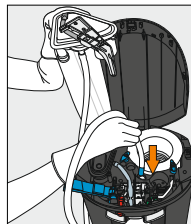

Figure 37
10. Insert water line of replacement SmartFlo SF-1 Water Cartridge through the guide tube, and push through to bottle installation area (Figure 37).